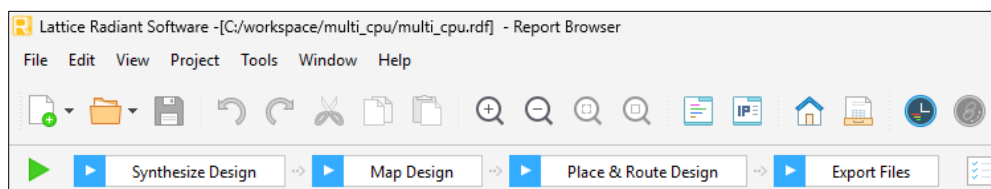

Figure 4.14. Launch Lattice Radiant – Compile Design
- b. Compile the design to complete the hardware build process (Figure 4.14).